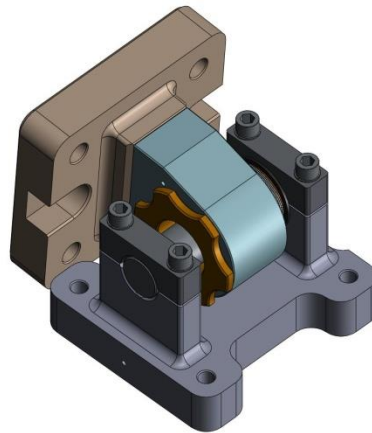

Figure 3.17. Locker Pin Caps clamped over the ends of the Spherical Pin.
- Place (2) **Locker Pin Caps** (D0900635) over the ends of the **Locker Spherical Pin**, orienting them as shown in Figure 3.17. Start the screws into the **Locker Pin Base**. Snug, then torque to spec.